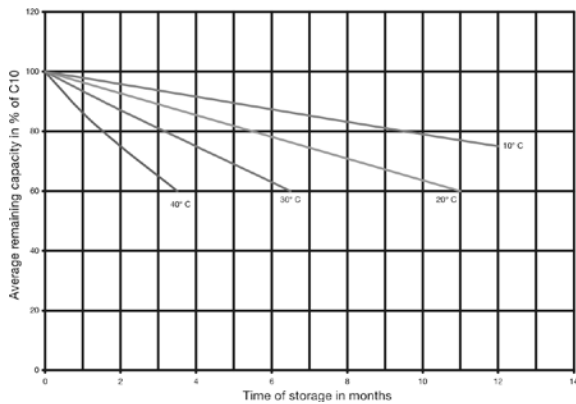

Fig. 1: Sprinter – remaining capacity in % of C10 versus time of storage with different temperatures
- The temperature has an impact on the self - discharge rate (see fig. 1 and 2).